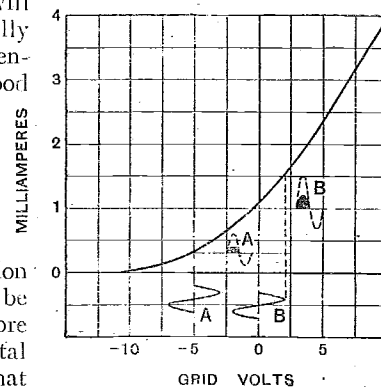
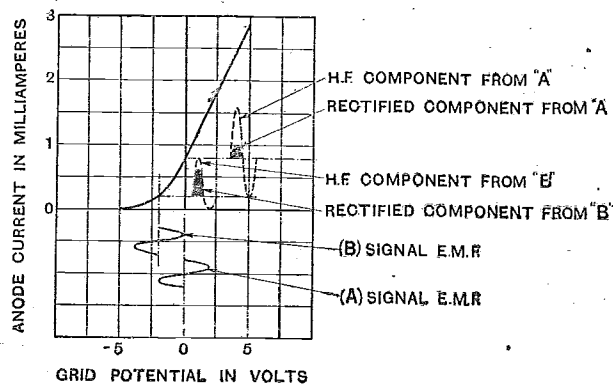

Fig. 2.—Rectification with a "general purpose" valve.
Fig. 1.—Portion of the grid volts-anode current characteristic of a valve and a diagrammatic representation of rectification.
This can be more easily appreciated by referring to Fig. 1, which illustrates diagrammatically the results of applying a given signal E.M.F. of 2 volts amplitude to a certain valve having a grid volts-anode current characteristic, as shown. We have illustrated in this diagram the effect of applying a signal E.M.F. to the grid in two cases:—(A) when the normal potential of the grid is zero, and (B) when the normal potential of the grid is
The characteristic curve illustrated in Fig. 1 is plotted from a Type QX valve which has been specially designed for detection purposes, and for this reason has a very much sharper bend than is found in the curve of an ordinary general-purpose valve, such as the R valve.
The characteristic curve of a general-purpose valve is shown in Fig. 2, where we have also indicated in the same way the result of applying an equal signal E.M.F. of 2 volts to such a valve. From this figure it will be seen that even when the normal grid voltage is adjusted to the optimum point, the rectified component of the resulting anode current is very much smaller than is obtained in the case of the Type QX valve illustrated in Fig. 1; thus, when employing this method of detection it is most desirable to procure a special valve for the purpose.
the method just described, rectification is entirely independent of any flow of current in the grid circuit; in fact, the conditions of the circuit may be such that the whole of the signal oscillations take place to the left of the zero grid voltage line, as in the case of "B" in Fig. 1, in which case no grid current will flow in the circuit.